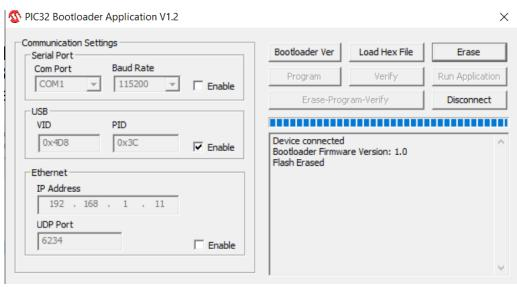

Fig. 8.7
11. Click on Erase and wait for Erase confirmation.(Refer Fig. 8.7)